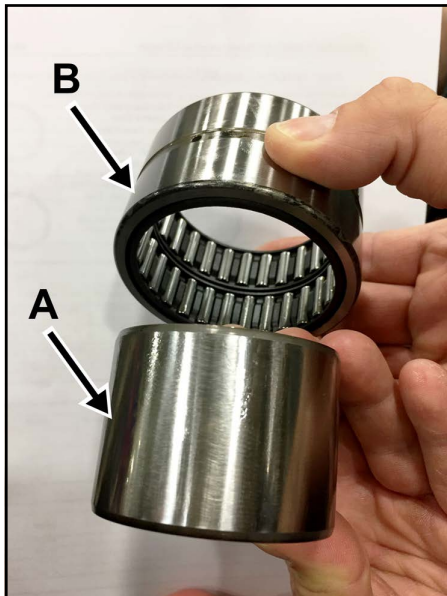

Figure 273 -Remove outer race of needle roller bearing
2. Remove the outer race (Figure 273, item B) of the needle roller bearing. (The inner race is Figure 273, item A).